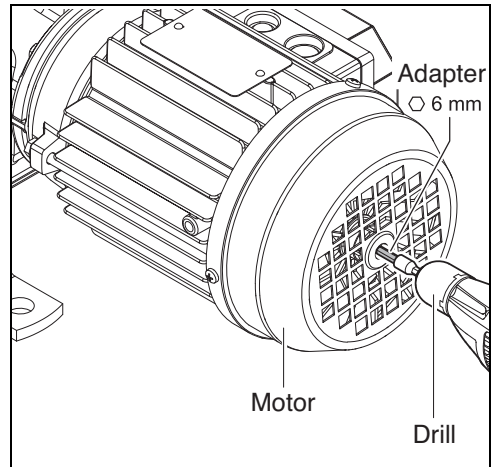

Fig. 12
- ▶ Connect a drill with an adapter hexagon 0.24 in (6 mm) or Torx /TX T 40. Minimum tool length: 1.75 in (45 mm) (see Fig. 12).